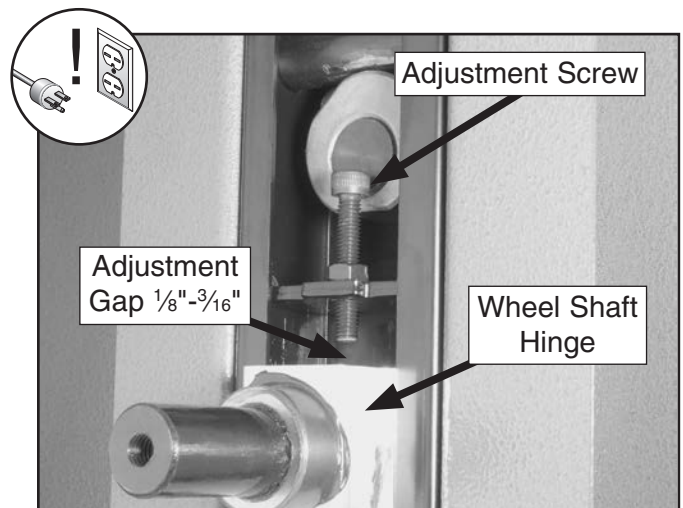

Figure 65. Tension lever adjustment components.
5. Turn the adjustment screw shown in **Figure 65** until the gap between the screw and the wheel shaft hinge is $\frac{1}{16}$ "– $\frac{3}{16}$ ".